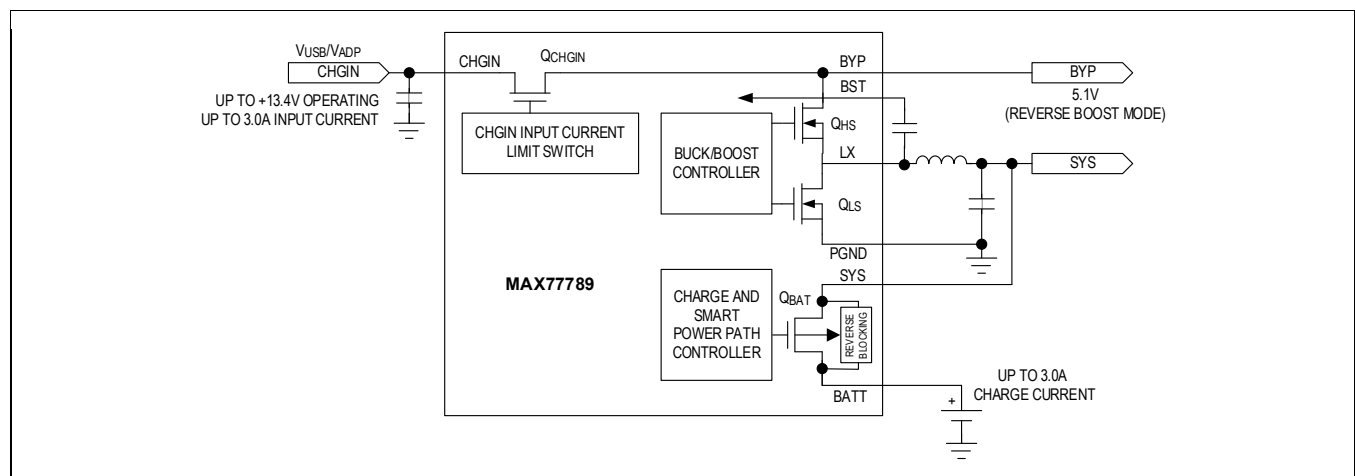
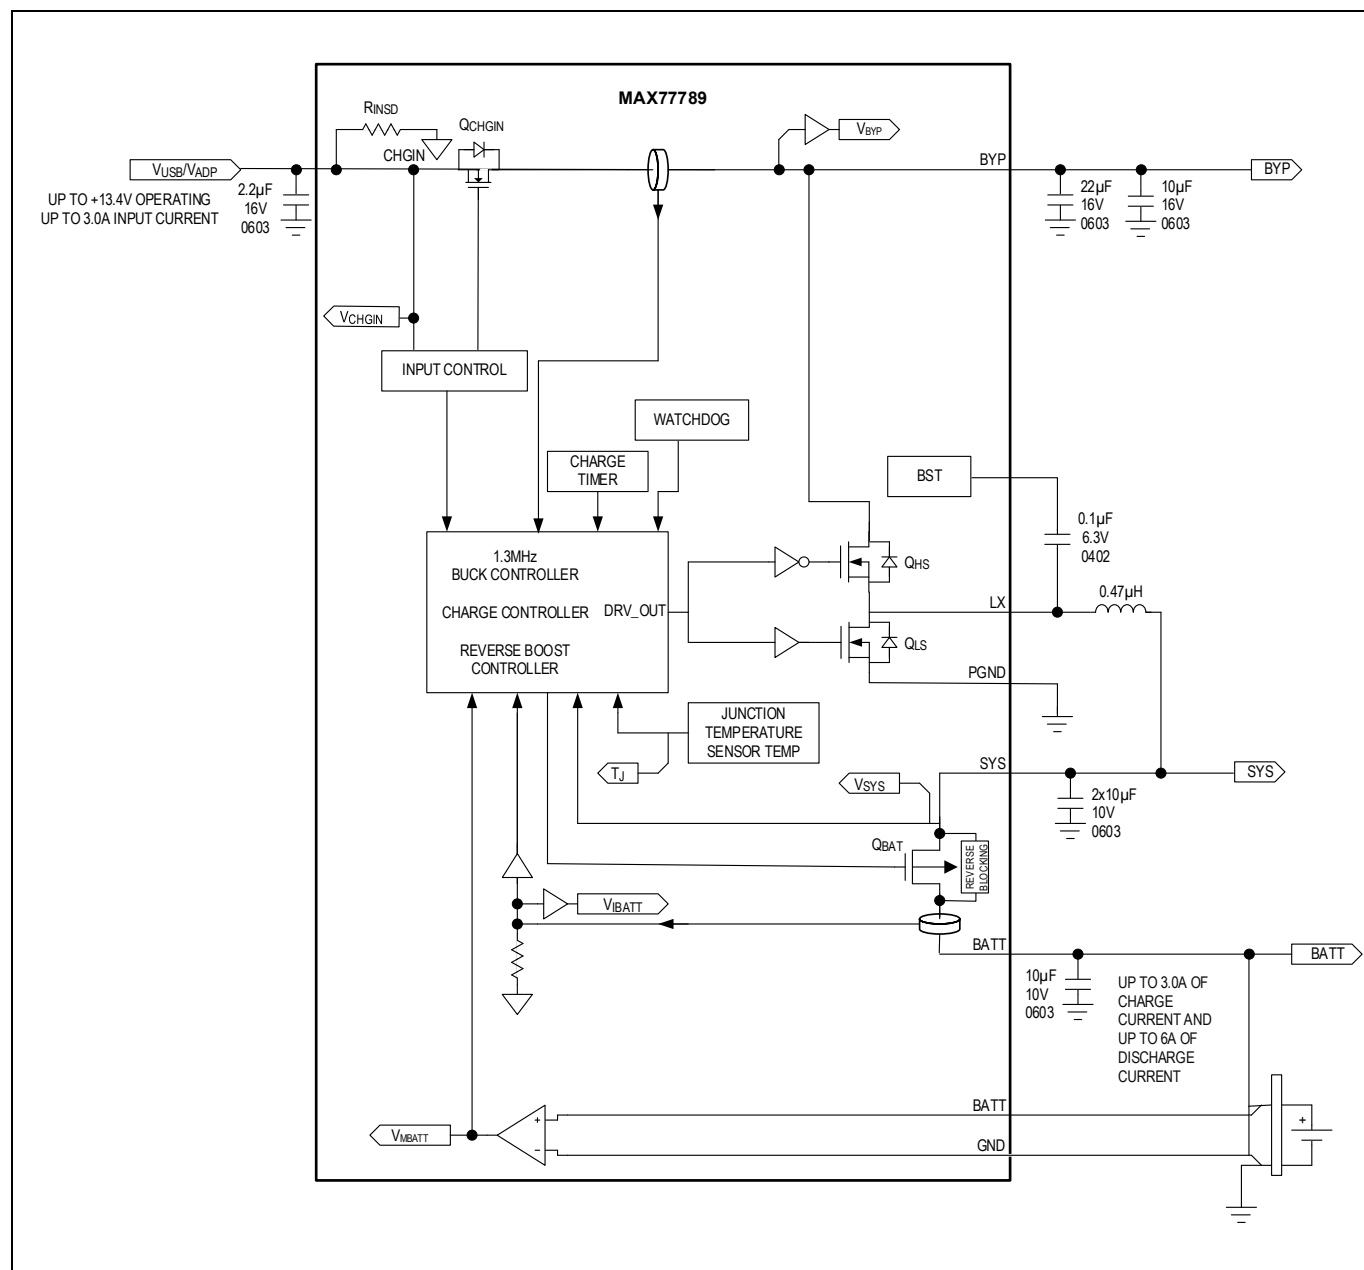

Figure 1. Simplified Functional Diagram
Figure 2. Main Battery Charger Detailed Functional Diagram
The IC is a switch-mode charger for a one-cell lithium-ion (Li+), and lithium polymer (Li-polymer), or LiFePO₄ battery. As shown in Figure 2, the current limit for CHGIN input is configured allowing the flexibility to connect to either an AC-to-DC wall charger or a USB port.
Figure 1 shows a simplified arrangement for the smart power selector's power steering switches. Figure 2 shows a more detailed arrangement of the smart power selector switches and with the following names: Q_{CHGIN}, Q_{HS}, Q_{LS}, and Q_{BAT}.
- CHGIN Input Switch: Q_{CHGIN} provides the input overvoltage protection of +16V. The input switch is either completely on or completely off. As shown in Figure 2, there are SPS control loops that monitor the current through the input switches as well as the input voltage.